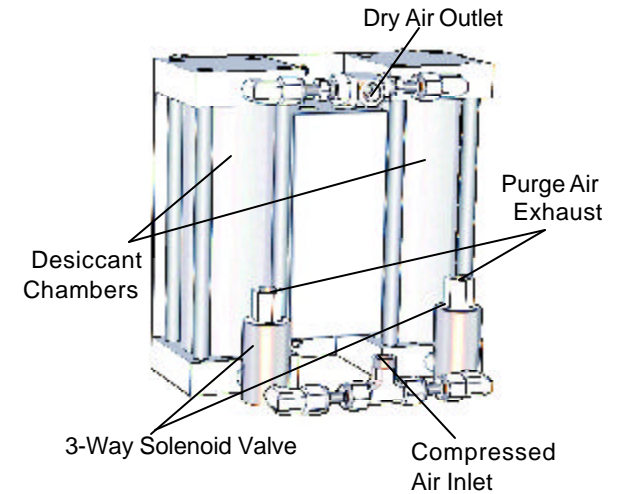

Figure 1
2. Connect compressed air line with minimum of 60 psig and maximum of 100 psig to 1/4" Compressed Air Inlet port (Refer to Figure 1). *Coalescing oil/water pre-filter is recommended for installations where oil or water mist is present.*